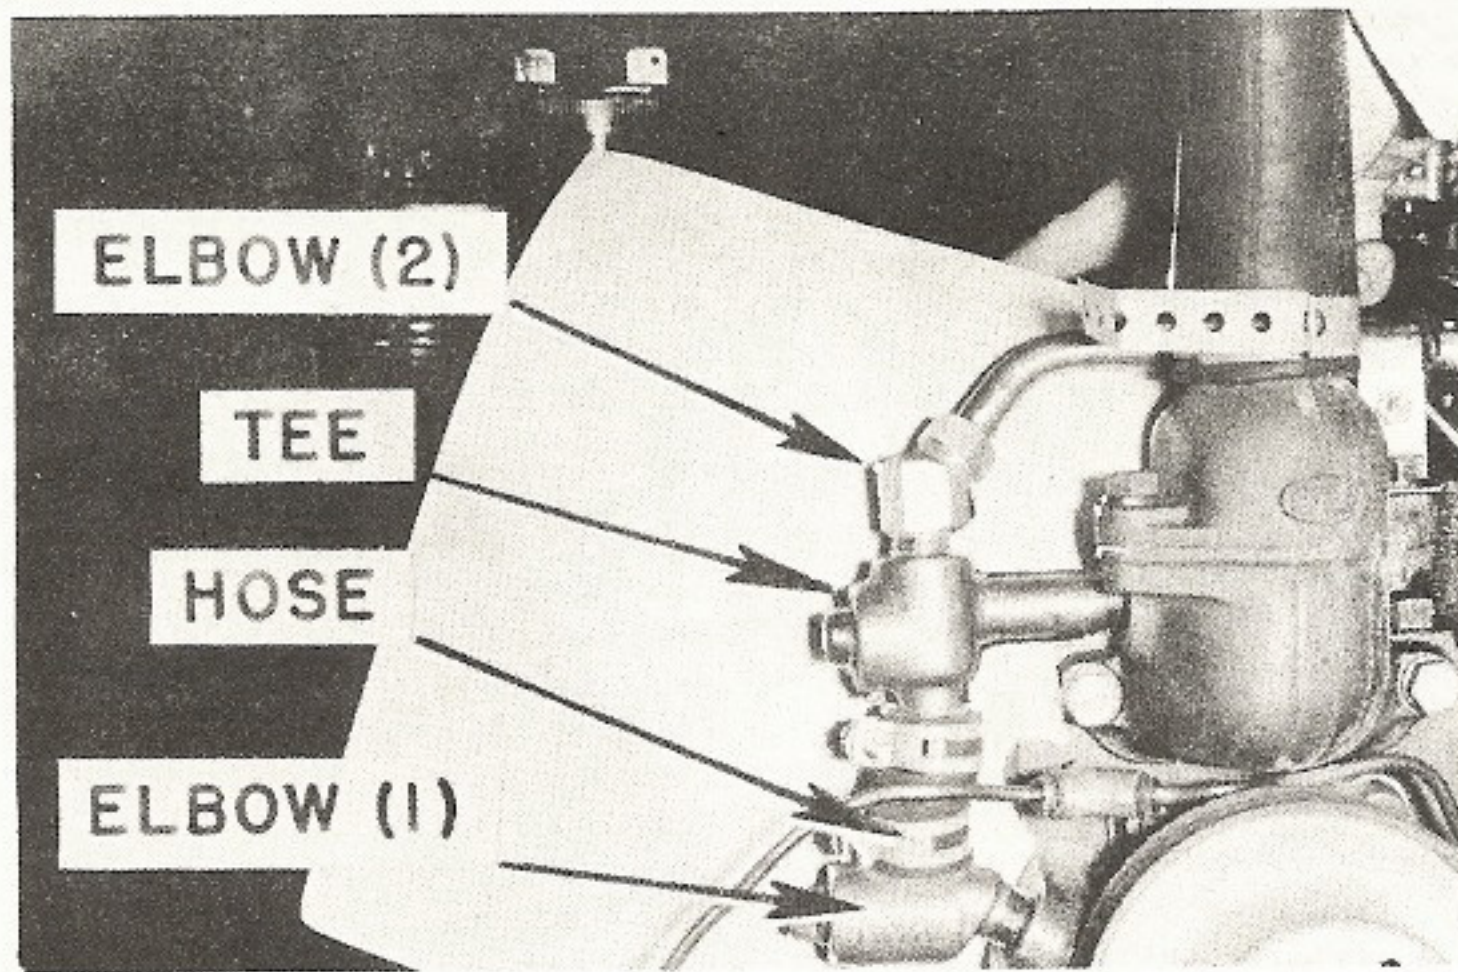

Fig. 3 - The new by-pass circulates the water through the engine during warm-up; stops overcooling.
Here's the installation (follow Fig. 3):
Special instructions for engines with two oil filters: Disconnect engine-to-oil-filter oil line at the filter. Install headless pipe plug, Part No. 103885 in elbow (1) (Fig. 3). Install the elbow in the water pump, connect the oil line to the filter and continue with the installation as outlined above.